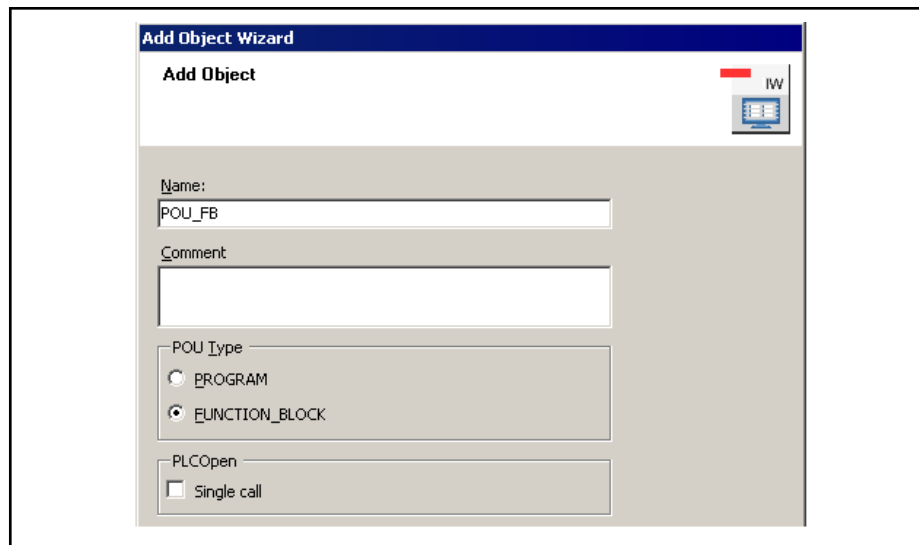

Fig. 6-23: Creating an Extended POU, function block type: "FUNCTION_BLOCK"
3. Enter the name and comment of the POU in the **Add Basic** or **Extended-POU** dialog (refer to) and select the function block type **PROGRAM** or **FUNCTION_BLOCK** (see fig. 6-23 "Creating an Extended POU, function block type: FUNCTION_BLOCK" on page 56).